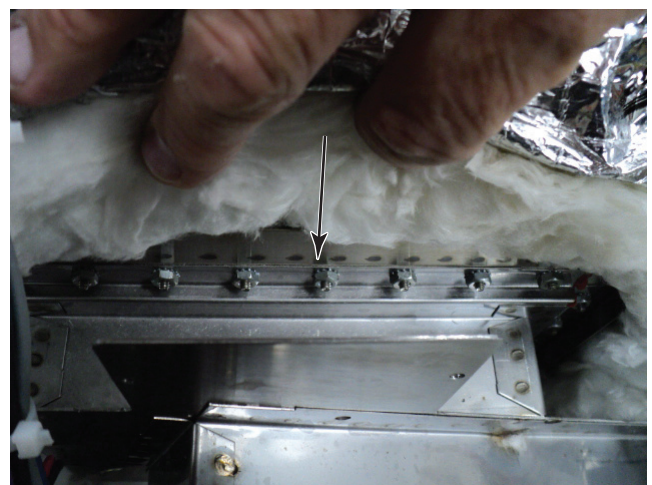

Figure 18
4. Remove six nuts from the top mounting side of the feed box (Figure 18).